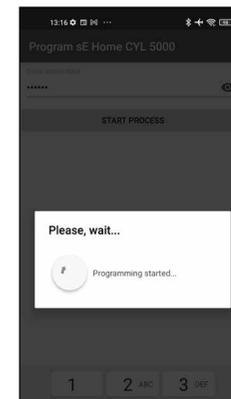

Fig. 77
- ⑬ The loading window indicates that programming has started and the current status of the programming (Fig. 77).